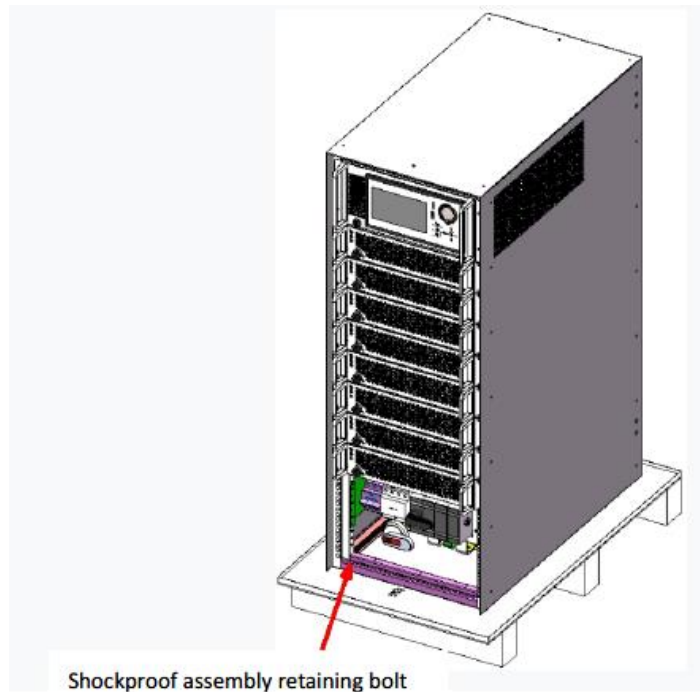

Figure 3-3 : remove fixing bolts (4 pcs) of anti-vibration component
2. As figure 3-3 shows, remove the anti-vibration component at the bottom of the cabinet, and then use the forklift to move the cabinet to the installation position.